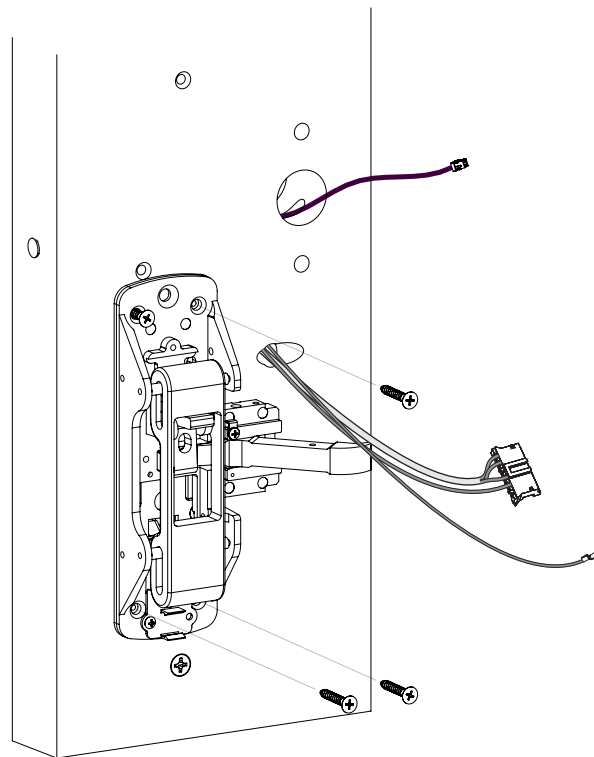

Fig. 10
6. Secure exit chassis. (Fig. 10)